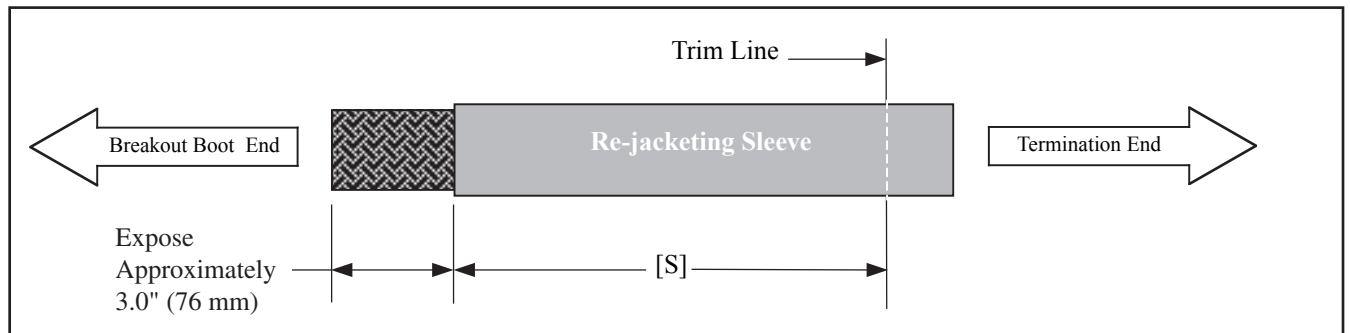

Figure 15
5.4 Using scissors, trim re-jacketing sleeve assembly to length required (Figure 15). Cut tubing and inner braid together.